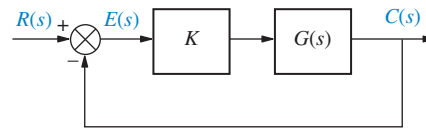

FIGURE I-5.13
- b. If this rotational system is the controlled unit,  $G(s)$ , in the feedback system of Figure I-5.13, find the values of  $\zeta$ ,  $\omega_n$ , %O.S., and  $T_s$  for a controller gain  $K = 4$  N-m/rad and  $r(t) = u(t)$  radians.